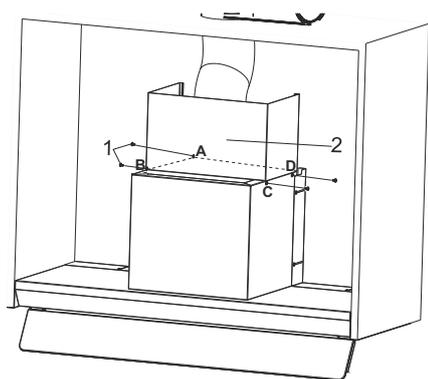

Fig. 16
5. ➔ Place the sheet metal flue included in the package on the product (Fig. 16).
Using the 4 connection screws, screw the outer flue to the product body at points A,B,C,D (Fig. 16).